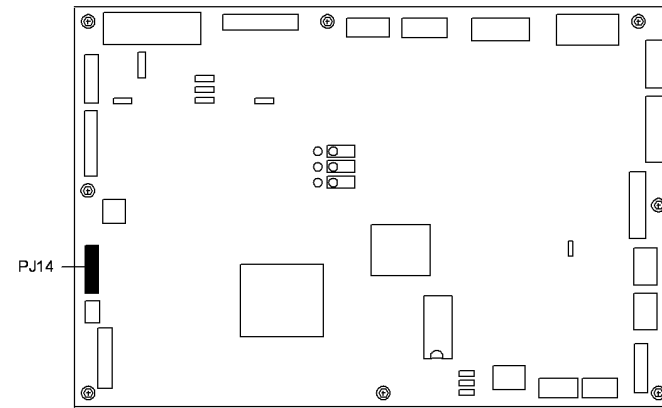

Figure 6 IOT PWB
9. **Figure 6.** Disconnect all the PJs on the IOT PWB except PJ14.